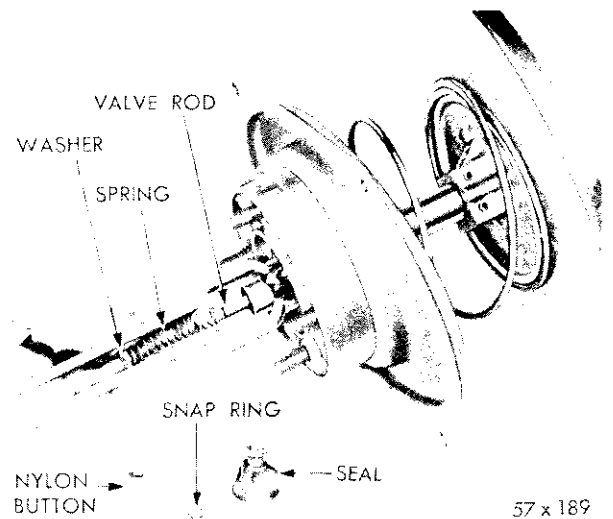
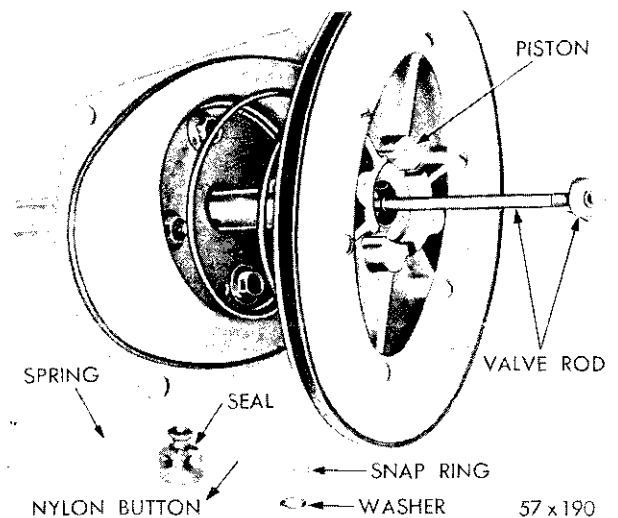

Fig. 54—Removing or Installing the Spring and Washer
Fig. 55—Removing the Valve Rod from the Piston
(8) Slide the valve rod washer and spring off end of rod, as shown in Figure 54. Slide the valve rod out of the piston, as shown in Figure 55.